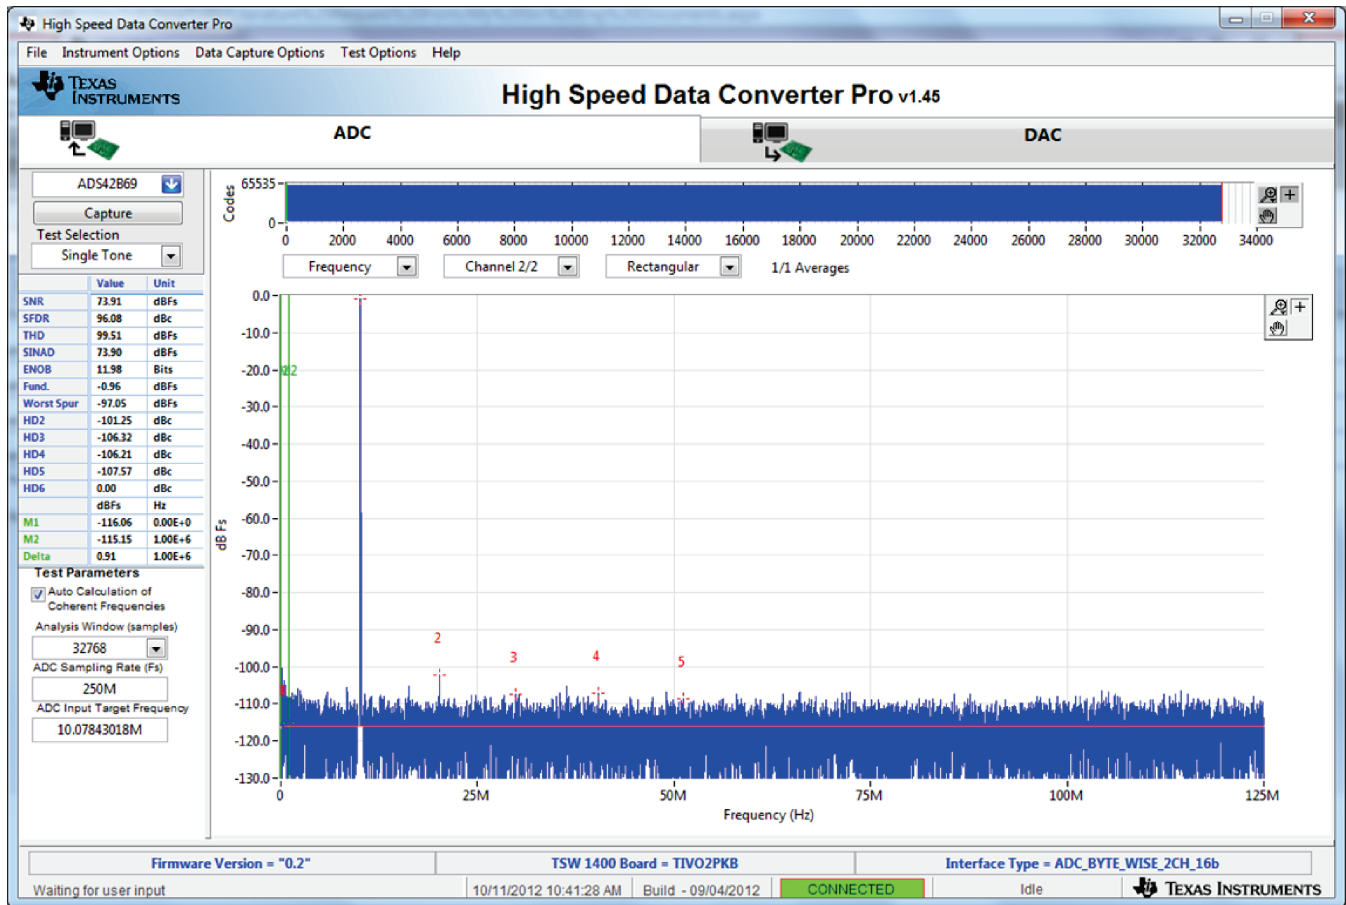

Figure 7. ADS42LB69 Sample Capture using the TSW1400
7. All boards and software are now setup. Click the *Capture* button. A sample capture is shown in Figure 7 for the ADS42LB69 with a 250-MHz clock and 10-MHz input frequency.